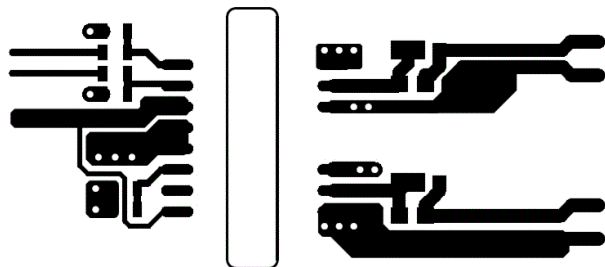
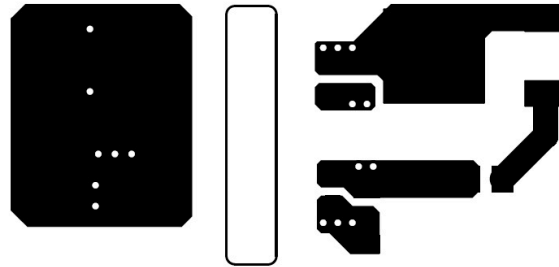

Figure 11-2. Top Layer Traces and Copper
Figure 11-3. Bottom Layer Traces and Copper (Flipped)
- Increasing the PCB copper connecting to VDDA, VDDB, VSSA and VSSB pins is recommended, with priority on maximizing the connection to VSSA and VSSB (see Figure 11-2 and Figure 11-3). However, high voltage PCB considerations mentioned above must be maintained.
Figure 11-2 and Figure 11-3 shows top and bottom layer traces and copper.